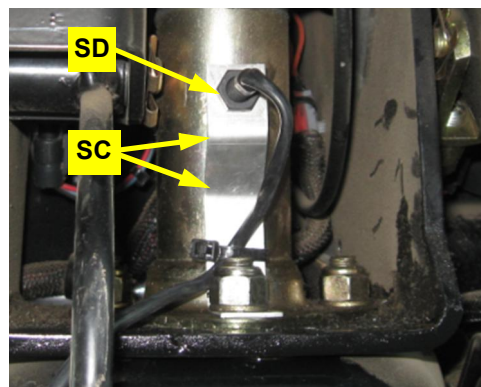

Figure 1d: Installed and adjusted sensor arm
- e. Align the sensor **SD** with the magnets and, by adding bends to the bracket and using the adjustment nuts, set the sensor face to 1/4" to 1/2" from the magnets (Figure 1d).